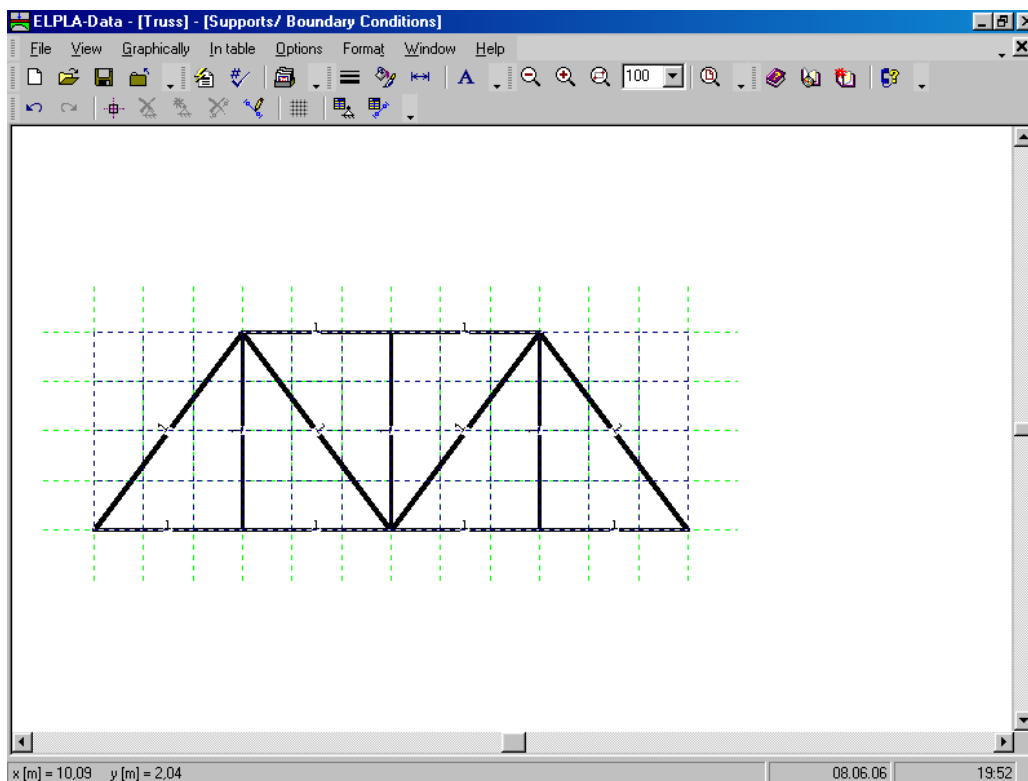
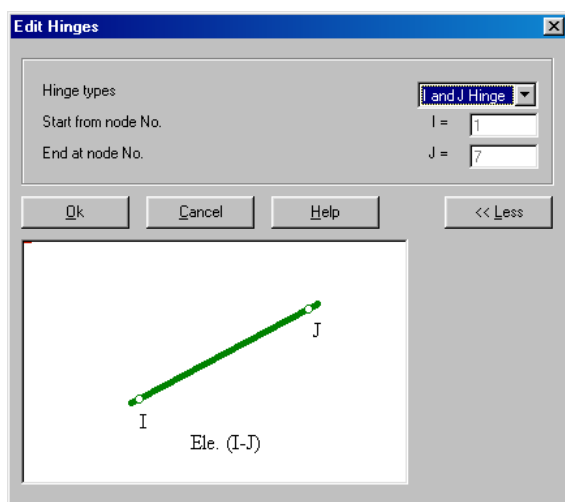

Figure 6-20 Girders are drawn in simple lines
Figure 6-24 "Edit hinges" dialog box
After clicking "OK" in the "Plot parameters" dialog box, the girders are drawn as simple lines as shown in Figure 6-20.
- Choose "Select nodes" command from the "Graphically" menu in Figure 6-20. When "Select nodes" command is chosen, the cursor will change from an arrow to a cross hair
To define the element hinged, choose "Edit hinges" command from the "Graphically" menu in Figure 6-20. When "Edit hinges" command is chosen, the cursor will change from an arrow to a cross hair. Double click on the element that has the hinges. "Edit hinges" dialog box in Figure 6-24 appears.